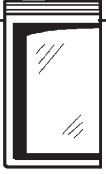

Figure 12.9
5. Spread the rock or onyx evenly across the rock tray. See Figure 12.9. **DO NOT** place rocks in burner area or in front of pilot burner.